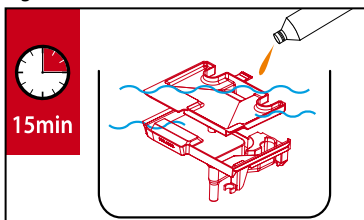

Fig.5
3. Place the mixing tray in a bin with locally approved food-grade cleaning agent and hot water and soak for approximately 15 minutes. (See Fig.5) Rinse with clean water before replacing.